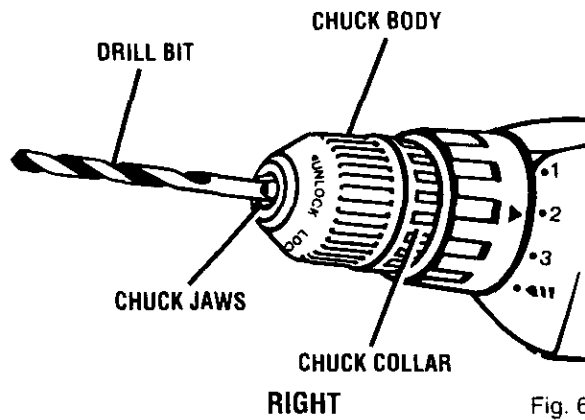

Fig. 6
See Figure 6.
- Insert drill bit into chuck the full length of the jaws as shown in figure 6.